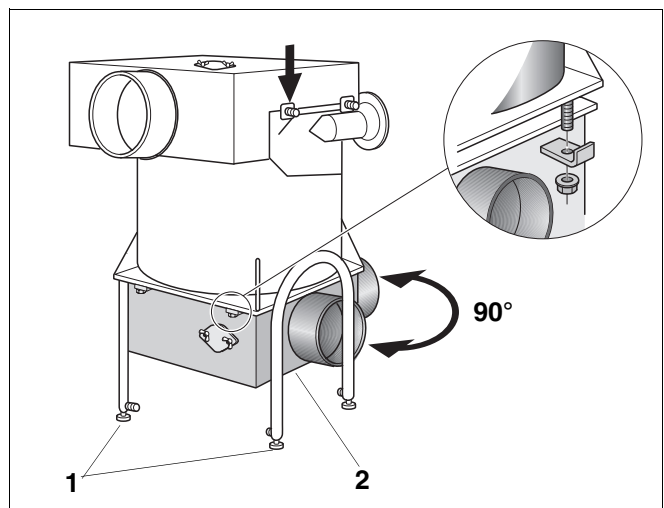
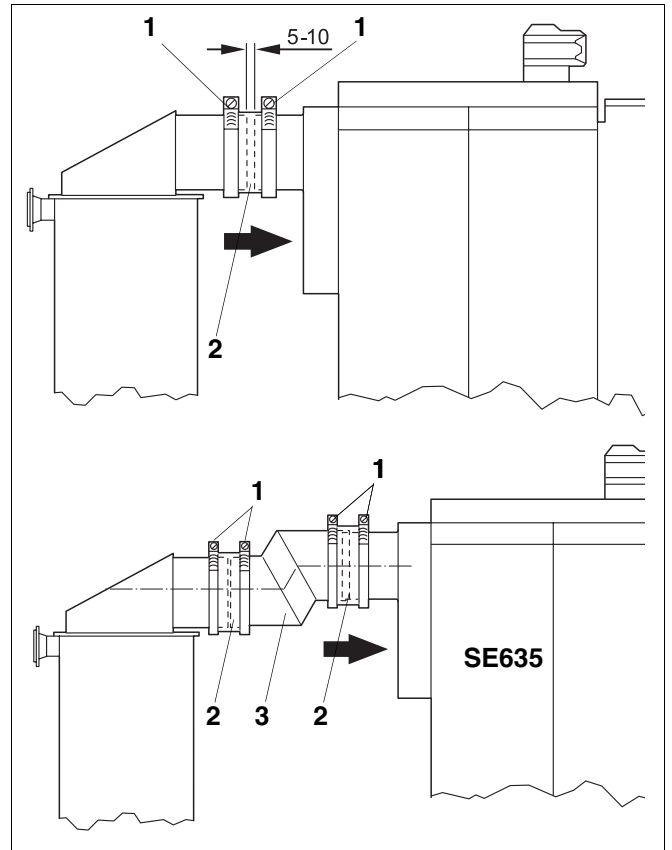
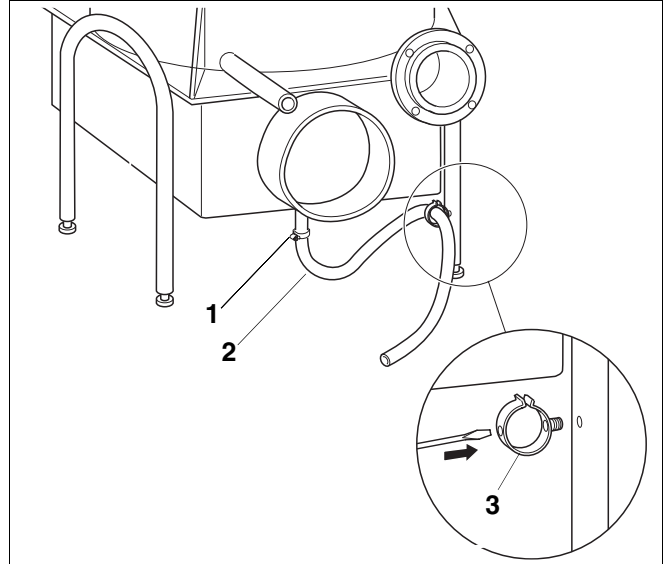

Fig. 4 Rotating and levelling the flue gas header
Fig. 5 Tighten flue pipe sealing collar
Fig. 6 Fitting drain hose
To ensure perfect ventilation, the flue gas heat exchanger must be tilted slightly backwards, using the adjustable feet (Fig. 5 and Fig. 6, page 12).
Ensure that the flue pipe sealing collar (Fig. 5, page 11) with the clips is located above one of the two flue outlets before the boiler and flue gas heat exchanger flue outlets are levelled (Fig. 4, page 10).
The flue gas header (Fig. 4, **Item 2**) can be shifted 90°.
- Loosen four nuts from underneath, swivel the clamping angle outwards (Fig. 4).
- Completely remove flue gas header (Fig. 4, **Item 2**) and put back in place, rotated through 90°.
- Level flue gas header, swivel clamping angle inwards and tighten nuts (Fig. 4).
- Align boiler and flue gas heat exchanger flue outlets, keeping them 5–10 mm apart (Fig. 5).
- On SE635, first place the flue pipe sealing collar (Fig. 5, **Item 2**) then the flue pipe adapter (Fig. 5, **Item 3**) with the greater diameter over the boiler flue outlet and seal it using the flue pipe sealing collar provided.
- Push flue pipe sealing collar (Fig. 5, **Item 2**) over both flue outlets and tighten using two clips (Fig. 5, **Item 1**).
- Insert hose bracket (Fig. 6, **Item 3**) into the hole in the frame.
- Using hose clip (Fig. 6, **Item 1**), fasten drain hose\* (Fig. 6, **Item 2**) to the condensate outlet.
- Insert drain hose\* into the hose holder, shape like a siphon and clamp tight with nut and bolt (Fig. 6).